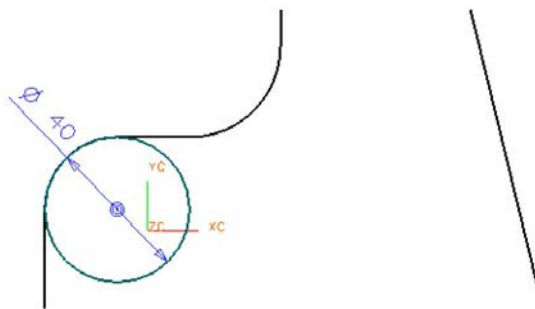

Figure 6-86 Sketch for the fourth feature
- Draw the sketch for the fourth feature and extrude it, refer to Figures 6-86 and 6-87.
2. Draw the sketch for the fourth feature which is a circle of 40 mm diameter, as shown in Figure 6-86.